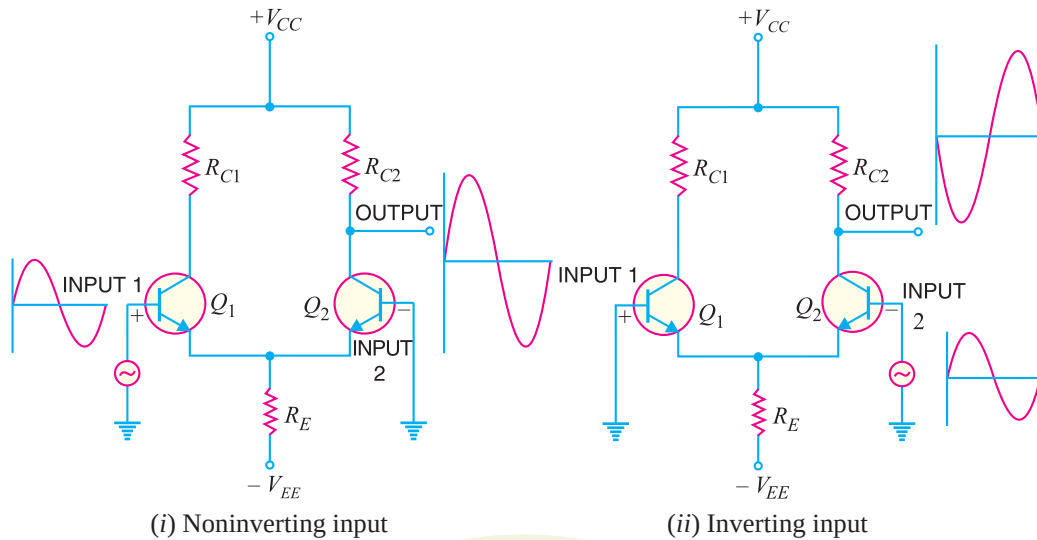

Fig. 25.7
- (b) When only one output terminal is available, the phase of the output of single-ended input DA depends on which input receives the input signal. This is illustrated in Fig. 25.7.
When signal applied to the input of DA produces no phase shift in the output, it is called **non-inverting input** [See Fig. 25.7 (i)]. In other words, for noninverting input, the output signal is in phase with the input signal. When the signal applied to the input of DA produces 180° phase shift, it is called **inverting input** [See Fig. 25.7 (ii)]. In other words, for inverting input, the output signal is 180° out of phase with the input signal. Since inverting input provides 180° phase shift, it is often identified with $-$ sign. The noninverting input is then represented by $+$ sign. It may be noted that terms noninverting input and inverting input are meaningful when only one output terminal of DA is available.
* Note that in Fig. 25.7, the noninverting input terminal is given the +ve sign while the inverting input terminal is given the $-$ ve sign.